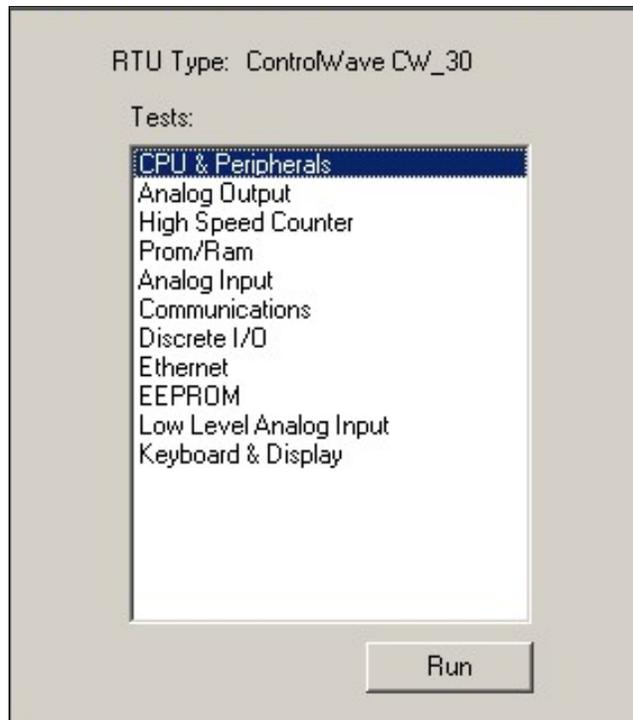
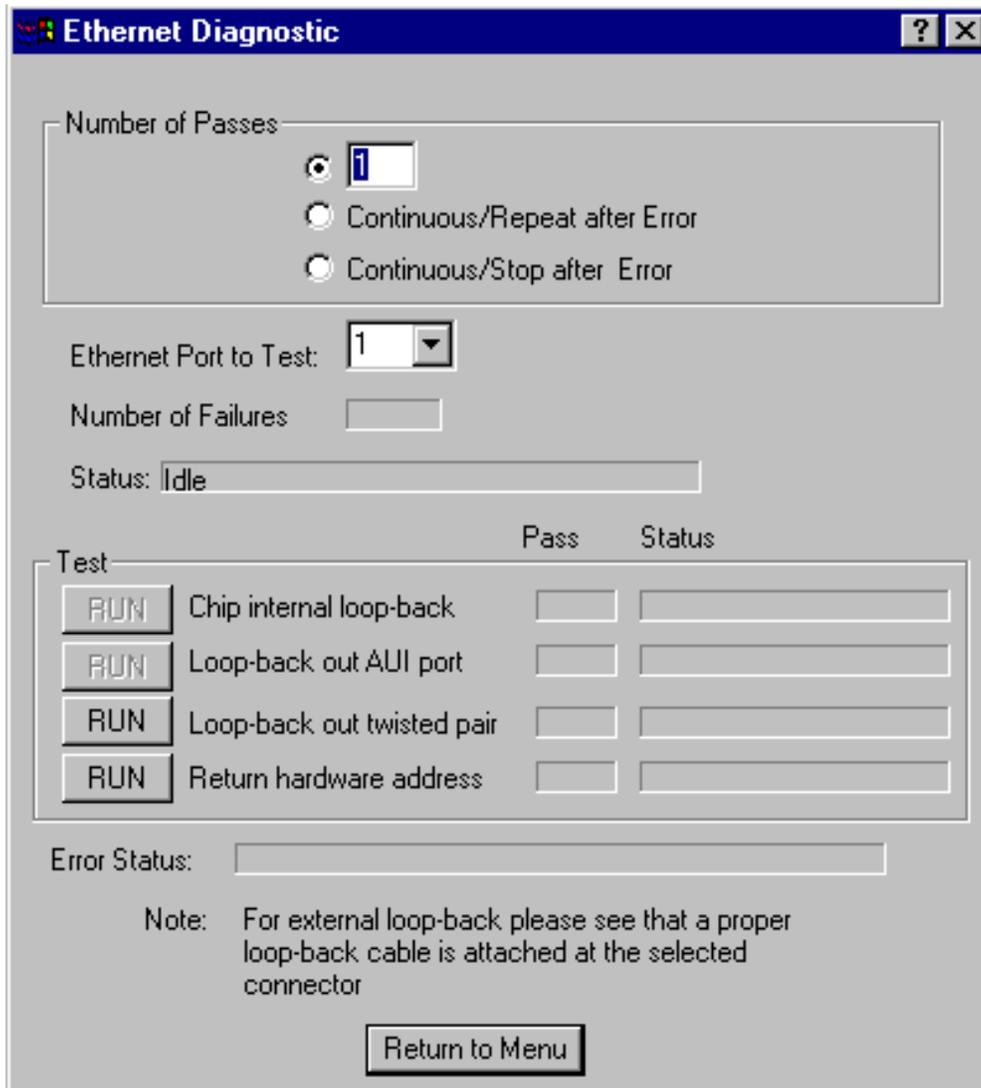

Figure 21 - WINDIAG Main Diagnostics Menu
Figure 25 - Ethernet Diagnostic Menu
3. Once WINDIAG has been entered, the Main Diagnostics Menu of Figure 21 will appear.
The Ethernet Diagnostic menu of Figure 25 is entered from the WINDIAG Main Diagnostic Menu (Figure 21). This menu provides four poke points (three associated with Ethernet circuitry test and one that provides the Return Hardware Address [which resides in FLASH]). These tests verify the operation and integrity of the PCNET (Ethernet) Controller and the Ethernet port hardware on the CPU Board and CB Board.